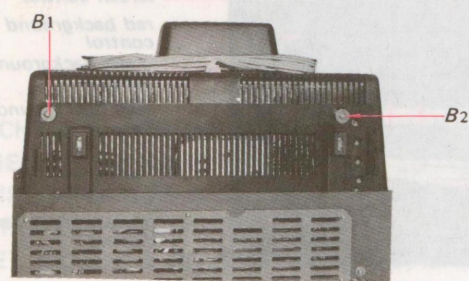

Fig. 2-2. Rear cover removal, Step 4
4. Remove the two screws at the bottom labeled B1-2 in Fig. 2-2.